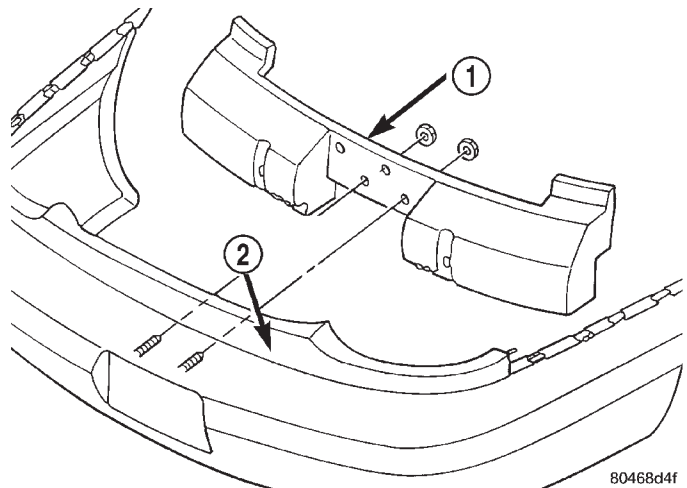

Fig. 5 Rear Bumper Energy Management Foam
- (1) Ensure that the energy management foam is properly installed in rear fascia (Fig. 5).
- (2) Position fascia on vehicle and slide forward to engage studs on quarter panel.